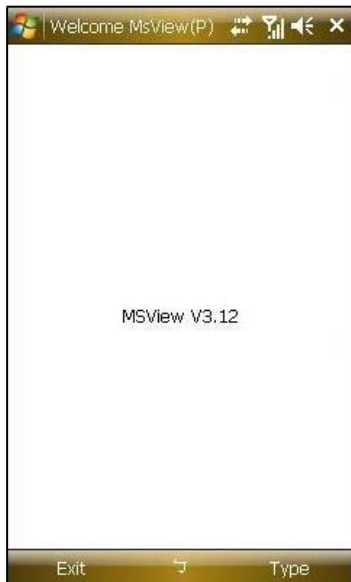

Figure 8-65
3. Click **Type** and then select **RPB** (see Figure 8-65). If you want to search the recordings within a specific period of time for playback, select **RPB with time**.